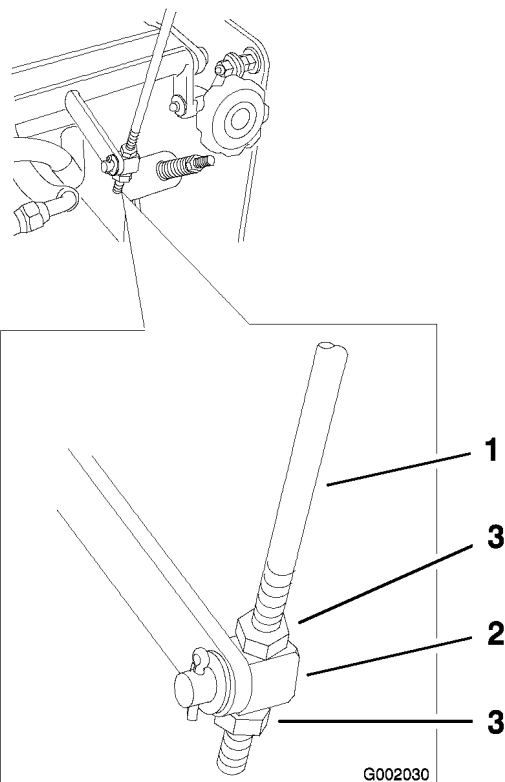

Figure 18
2. Loosen the nuts holding the swivel connected to the speed control crank (Figure 18).
- Adjust the swivel on the speed control rod and tighten the nuts against the swivel (Figure 18).
- Adjust the control rod length by rotating the control rod in the rod fitting (Figure 18).